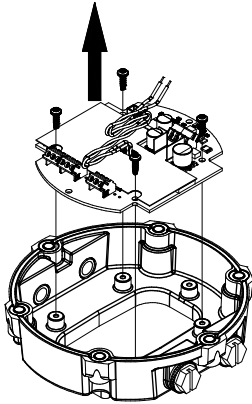

Figure 16
- Flip the cover plate over and remove (4) screws retaining the PC board assembly (see Figure 16).